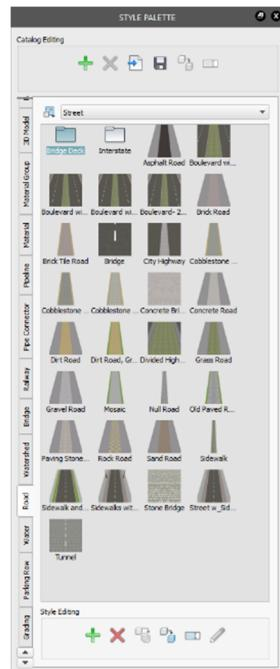
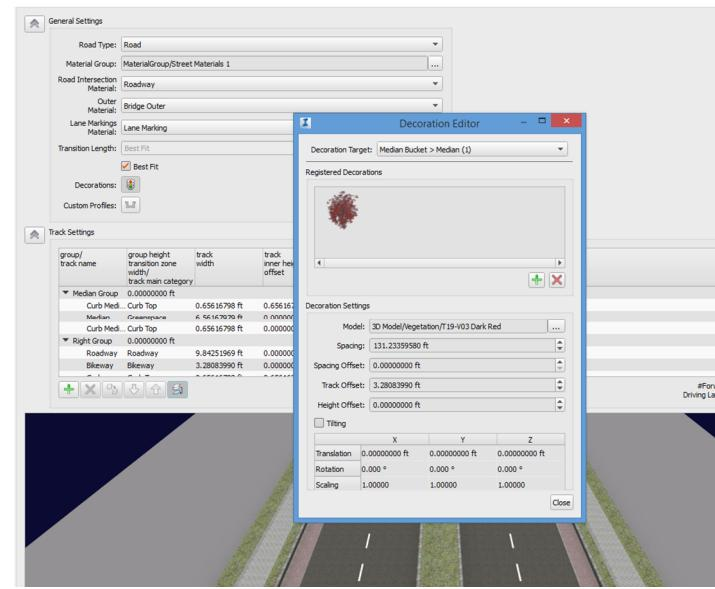

FIGURE 37
FIGURE 38
Click the **I** icon in the top left corner of the screen. On the fly out, click the rubik's cube icon to open the Create and Manage tools. Select style palette icon, the style palette will open on the right of the screen, select the road tab (figure 37). The road tab houses all the current Out of the Box (OOTB) styles. Select the boulevard with palms road style, click the copy button at the bottom of the catalog (make sure to select the copy to current catalog not the copy to another catalog button), change the name of the copied style to boulevard – 2-Lane, click enter, click enter a second time or click the edit pencil button at the bottom of the catalog to open the Configure Style dialog box (figure 38). On the configure style dialog box click the decorations button, on the Decoration Editor (figure 38 inner image), select the decoration target dropdown, select Median Bucket>Median from the Decoration target drop down. Select the red **X** to remove the tree decoration. Select the right bucket> greenspace (1) and click the red **X** to remove the light poles. Click close, click ok and drag and drop that style to the existing road to update it.